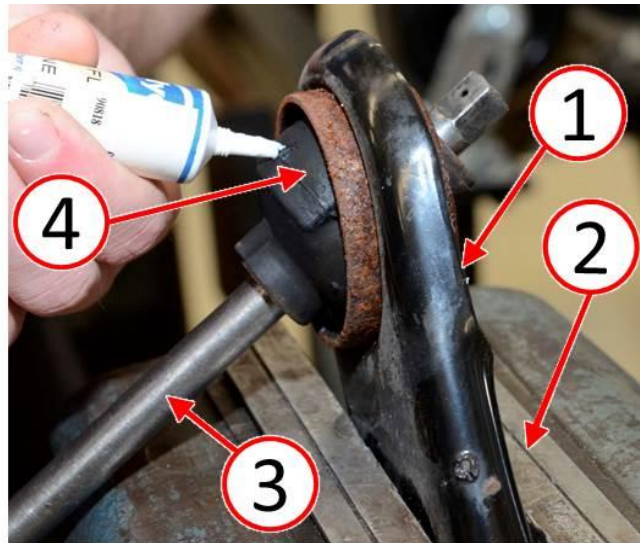

Fig. 2 Lower Control Arm Bushing
4. Clamp the lower control arm (1) securely in a vise (2) with bushing accessible (Fig. 2).
5. Using an appropriate tool (3), insert tool through the bushing sleeve, then rotate the bushing to expose the sides of the bushing (4) for Nye® lubricant application (Fig. 2).